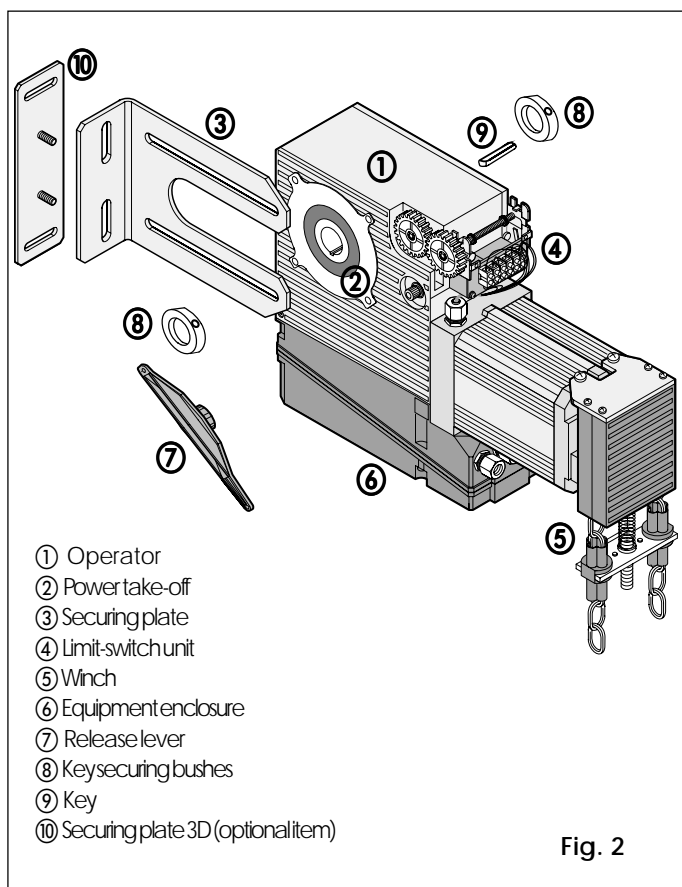

Fig. 2
- Insert the first key securing bush and the key itself in the shaft (see fig.2 ref. 8 and 9).